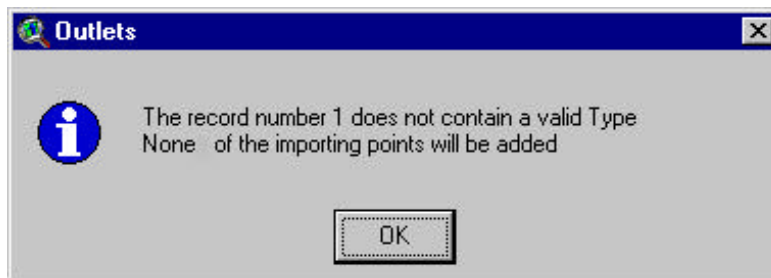

Figure 5.35
3. This table must have the same fields specified in Section 3.3 for Subbasin Outlet Location Table. All locations listed in the table must be outlet Type "O". If a different "Type" value is specified, a dialog box will report an error like the one reported in Figure 5.35 and the loading process will stop.
3. This table must have the same fields specified in Section 3.3 for Watershed Inlet Location Table. All locations listed in the table must be Type "D" (Point Sources) or Type "I" (Draining Watershed Inlets). If a different "Type" value is specified, a dialog box will report an error like the one reported in Figure 5.35 and the loading process will stop.